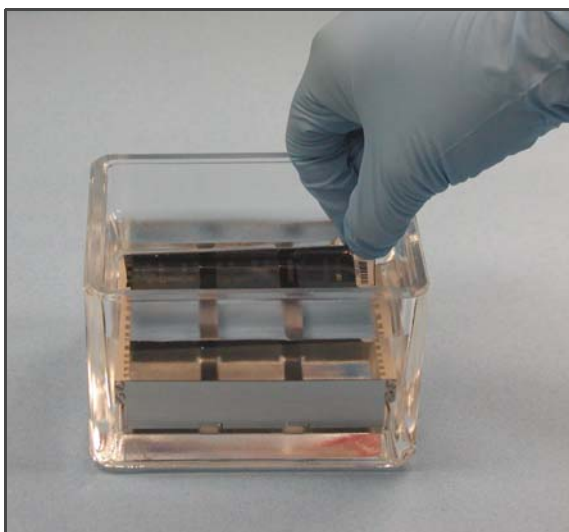

Figure 31 Placing BeadChip into Diluted Wash E1BC Buffer
4. Using tweezers or powder-free gloved hands, transfer the BeadChip to the slide rack submerged in the staining dish containing 250 ml Wash E1BC solution (Figure 31). This is the staging area to hold the BeadChips until all coverseals have been removed under the buffer.